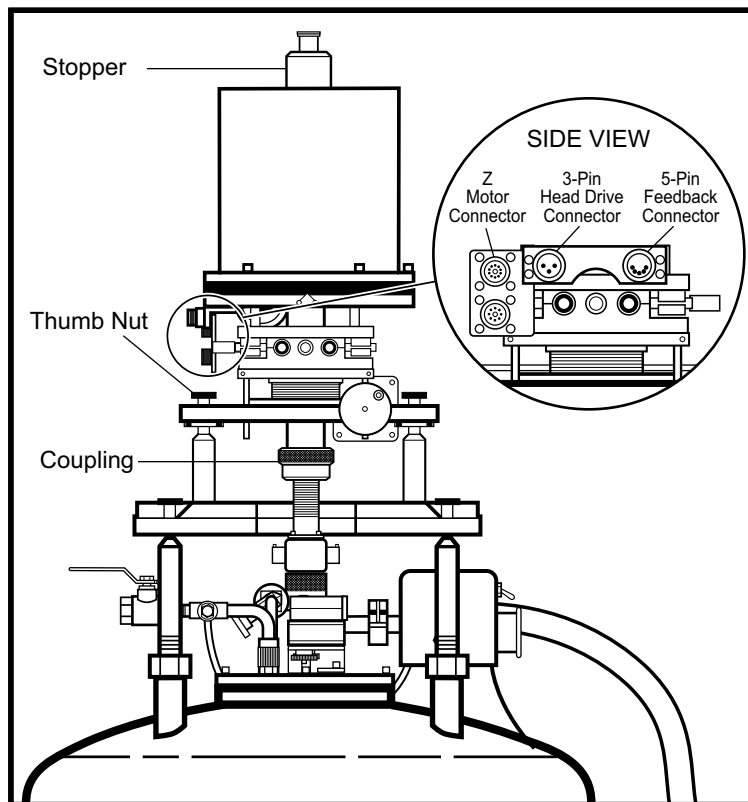

Figure 3-16 Installing the VSM Drive, Connecting the Model 735 and Model 704 to the Drive
25. Slide back the Mounting Structure Top Plate and fit the drive onto the Top Plate rods (Figure 3-16). Be sure to remove any packing materials from the inside of the drive (see Paragraph 2.1.2). Secure the drive with thumb nuts and level it.
26. Connect Cable 653-145 from the Model 735 Head Feedback port to the 5-Pin Drive Connector. Connect Cable 653-144 from the Model 735 Head Drive port to the 3-Pin Drive Connector (Figure 3-16).
27. Connect the Z Motor Cable from the Model 704 Motor C port to the Z Motor Drive Connector (Figure 3-16). Connect a serial cable from the Model 704 serial port to the computer Serial A port.
29. Slide forward the Mounting Structure Top Plate and securely thread the drive coupling onto the top of the VSM Insert. Remove the Stopper on top of the drive, insert the Sample Rod, then replace the Stopper (Figure 3-16).